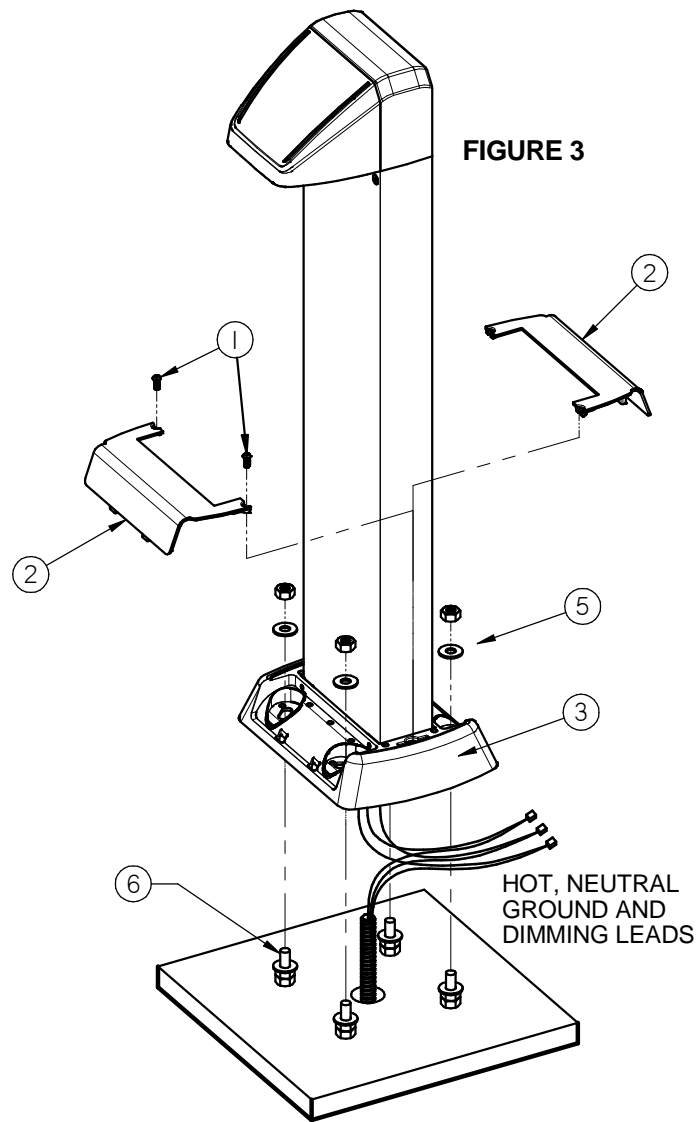

FIGURE 4
4. Place the bollard on the concrete pad and anchor bolts as shown. Angular adjustment slots allow the base and bollard to be rotated slightly if needed (see Fig 4). Using a level across the top of the base casting, determine if leveling nuts are needed. If not, place the (4) flat washers and ½-13 nuts (provided) and tighten the base casting into place (see Fig.5). If leveling nuts are needed (Fig 4 & 5) thread (4) ½-13 leveling nuts and washers (not provided) onto the anchor bolts and make adjustments as necessary until the base casting is level. Secure all of the ½-13 nuts.